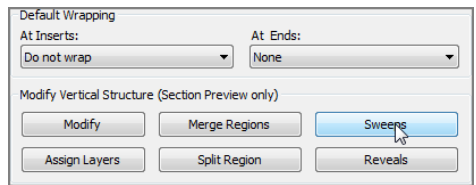

FIGURE 16.9: Adding a sweep to the wall
19. Click the Sweeps button, as shown in Figure 16.9.